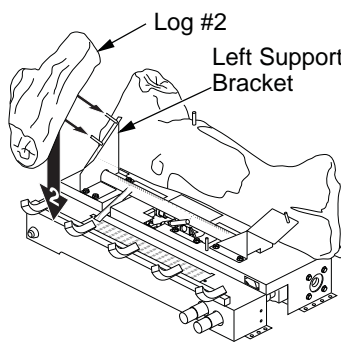

Figure 25 - Installing Left Log (#2)
2. Align two pegs in left support bracket with holes in bottom of left side log (#2). Place log on pegs (see Figure 25, page 15).
3. Align peg on right support bracket with hole in bottom of right side log (#3). Place log over peg and over last grate finger on right as shown in Figure 25.